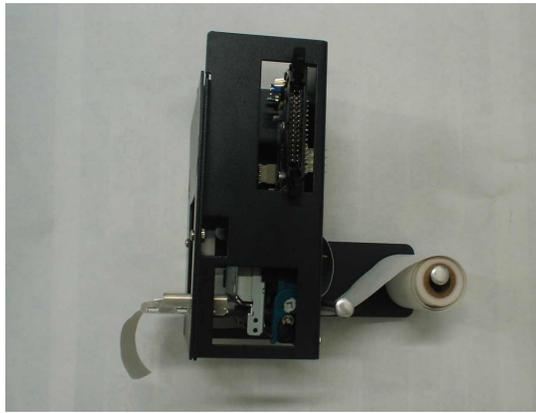

Figure P3: AC7074 Printer – Side View, Showing Proper Roll Placement
2. Move the “Paper Feed Lever” back to the DOWN position. Slide a new roll of paper onto the “Roll Holder”, oriented so the paper comes off on the side toward the printer (refer to Figure P3 for the correct placement).
3. Wrap the paper under the "Paper Guide" and begin to feed it into the "Paper Slot." You do not need to fold or cut the paper in any way; it should be left square in the front. At a certain point as the paper is being fed in, the printer will detect it and automatically feed it to the printing position. When done, the setup should look like Figure P3.
2. With the "Paper Feed Lever" still in the UP position, slide a new roll of paper onto the "Roll Holder," oriented so the paper comes off on the side toward the printer (refer to Figure P3 for the correct placement).